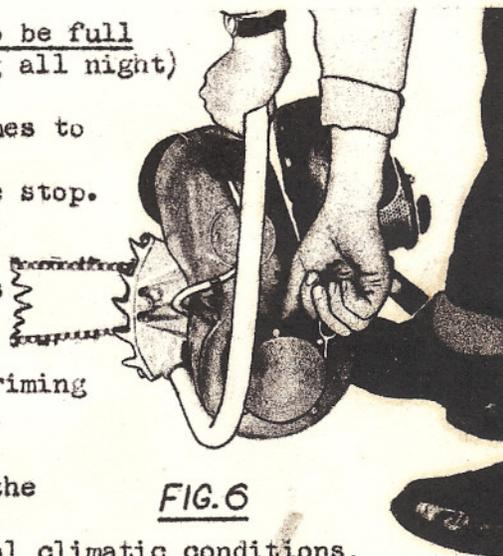

FIG. 6
- (1) Fill tank with fuel mixture as indicated above.
- (2) Pull fuel tap to "ON" position.
- (3) Depress the priming button firmly and slowly to its fullest extent, 12 - 14 times.
- (4) Engage the throttle stop button on the lefthand side of the rear handle, by depressing the throttle trigger fully, pushing in the button, and allowing the trigger to return to the button. This gives sufficient throttle opening to start the engine and it will automatically disengage when the throttle trigger is operated.
- (5) With saw on ground, right foot in rear handle and left hand bearing down firmly on the frame, pull the starter slowly until the engine is felt to be against compression. Return the starter handle to its static position and pull gently until the starter re-engages. A firm long pull will then start the engine. (Fig. 6). If the engine fails to start after a few pulls it means that the engine is either too rich (due to too much use of the priming button) or too weak (due to too little use of the priming button).